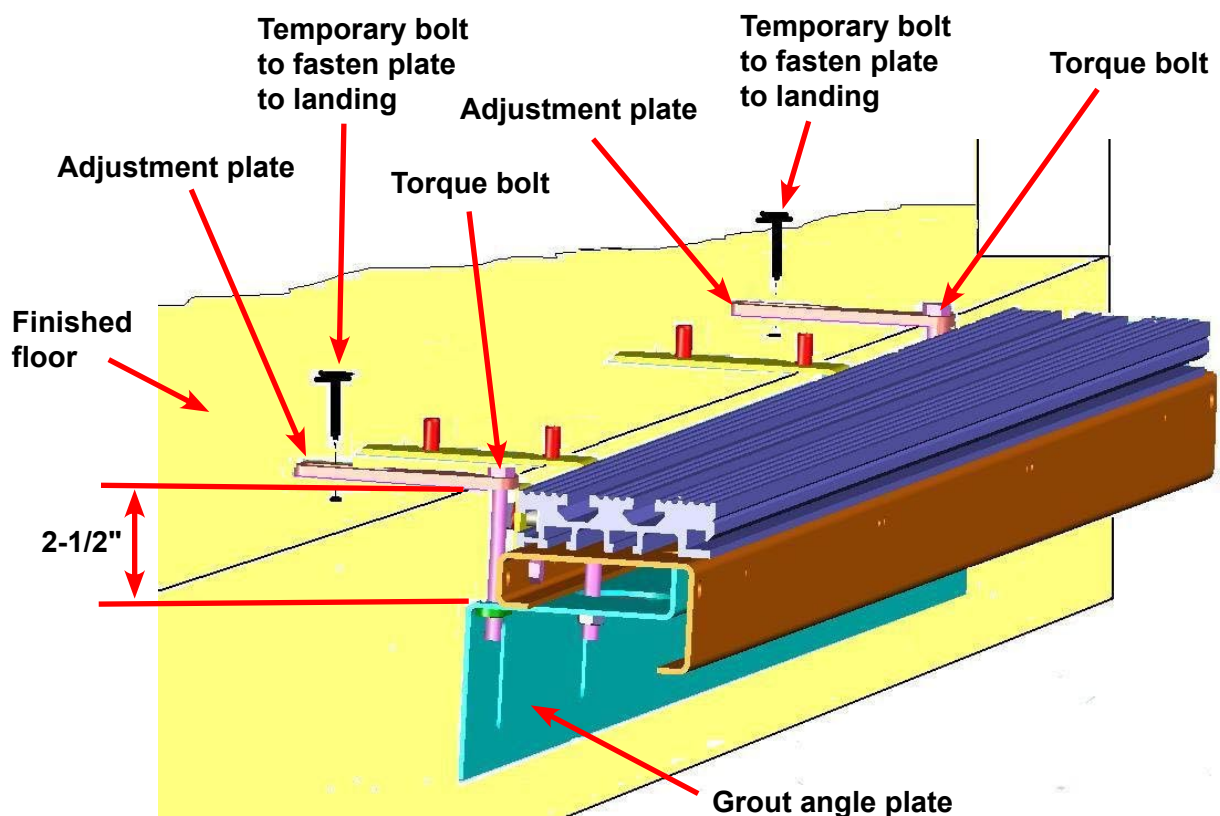

Figure 5 Adjust Sill Height
3. Fasten the temporary bolts for the sill height adjustment plates (PN 252132) to the landing floor. See Figure 5 on the next page.
5. Adjust the torque bolts (PN 105863) on the sill height adjustment plates until the grout angle plate is 2-1/2" lower than the finished floor dimension. See Figure 5.